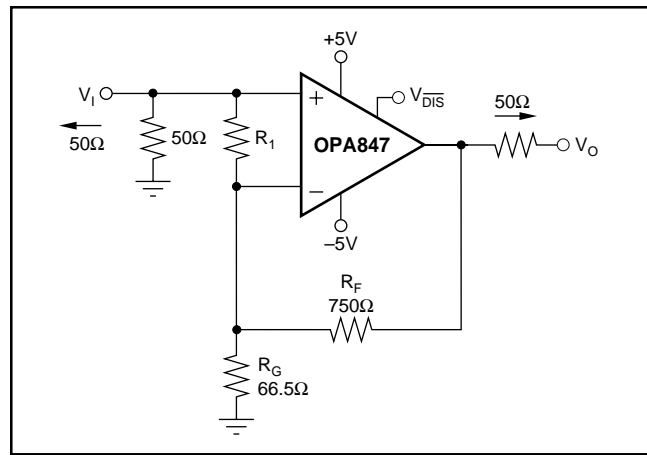
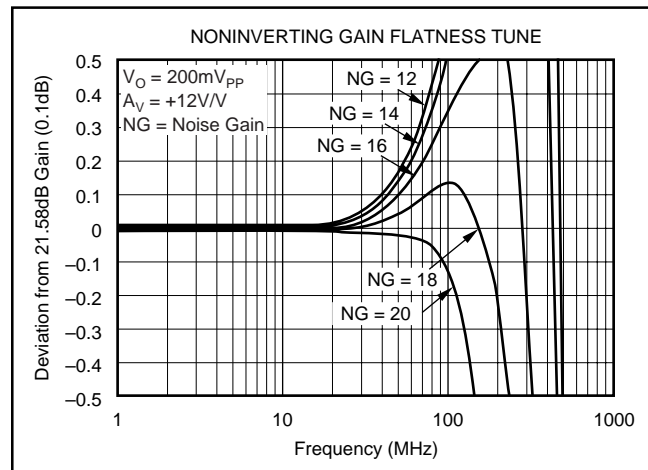

FIGURE 8. Low Noninverting Gain Flatness Trim.
FIGURE 9. Frequency Response Flatness with External Tuning Resistor.
Figure 8 shows a resistor-based compensation technique that allows the flatness at low noninverting signal gains to be controlled separately from the signal gain. This approach retains the full slew rate to the output but gives up some of the low-noise benefit of the OPA847. Including the effect of the total source impedance (25 $\Omega$  in Figure 8), tuning resistor  $R_1$  can be set using Equation 8.
$A_V$  = desired signal gain (+12V/V in Figure 8)
NG = target noise gain (adjusted in Figure 9)
The effect of this noninverting gain flatness tune is shown in Figure 9. At an NG of 12,  $R_1$  is removed and only  $R_F$  and  $R_G$  are present in Figure 8. The peaking is typically 4.5dB, as shown in the small-signal frequency response curves at this setting. As  $R_1$  is decreased, the operating noise gain (NG) increases, reducing the peaking and bandwidth until the nominal design point of +20 noise gain gives a non-peaked response.